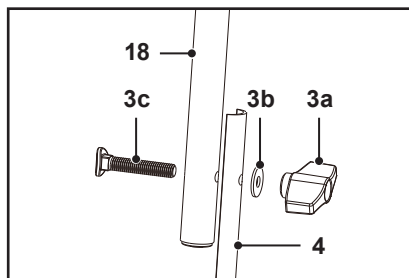

Fig. 2
4. Align the holes of the upper handle bar (18) with the lower handle bar (4). Pass the bolt (3c) through the upper handle bar (18), the top of the lower handle bar (4) and the washer (3b) (Fig. 2) to the end. Fasten the assembly with the locking nut (3a) (Fig. 2).